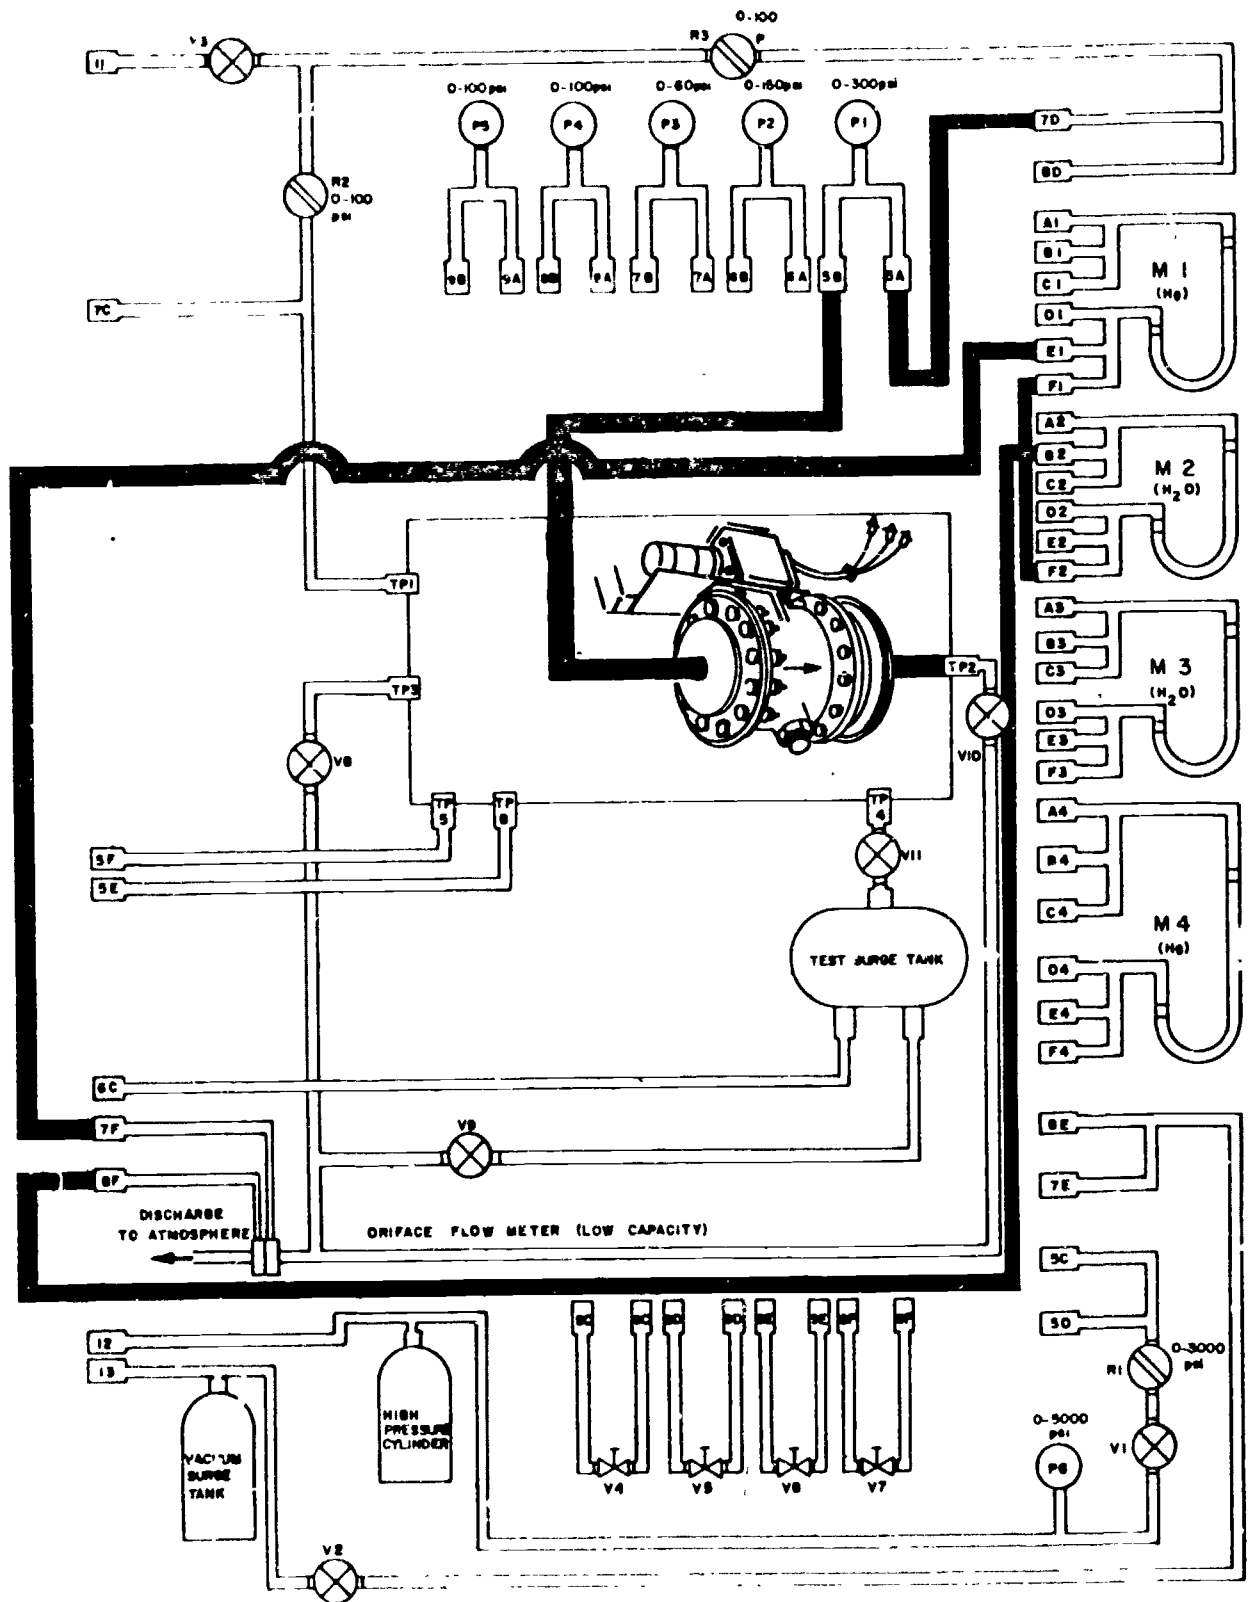
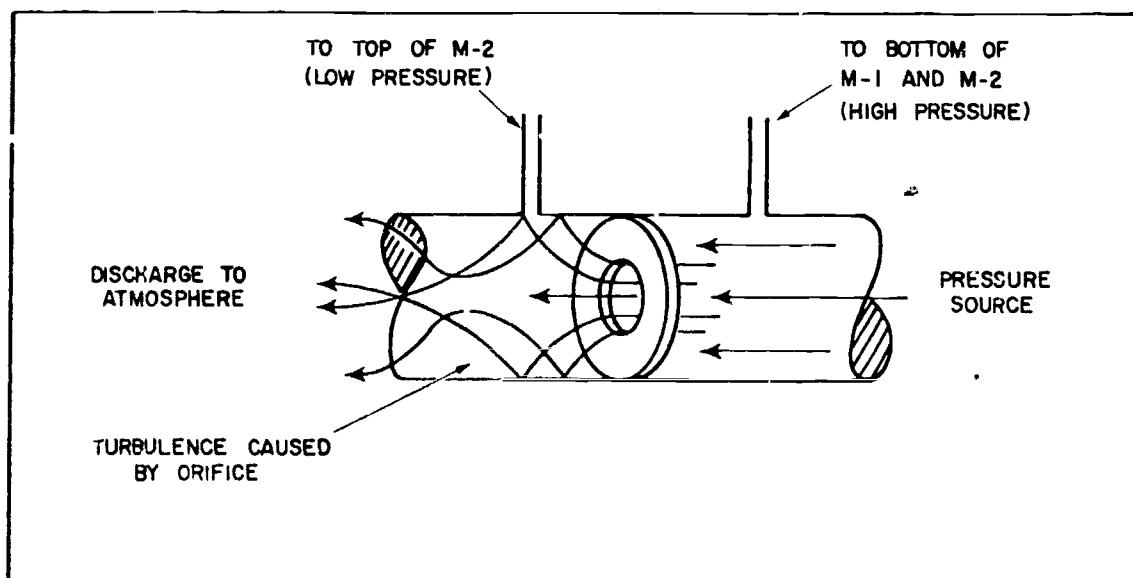

Figure 2. Test Facility Pneumatic Schematic.
Figure 3. Typical Orifice in a Duct.
- a. Figure 2 gives the proper way to hook the valve to the trainer. The heavy, black lines show how to hook each hose in order to make this check.
e. Trace the air flow through the trainer and valve (figure 2). Air in the trainer flows through V-3 and R-3 to connection 7D from 7D through pressure gage P1 and then to the valve. Even though the valve is closed, some air leaks through and goes through V-10 and on to the orifice. Air flow from the upstream side of the orifice goes through connection 7F to E1. From E1 air flows to the bottom of M-1 and at the same time air flows through fitting F1 to F2 and to the bottom of M-2. The mercury manometer (M-1) now reads the absolute pressure that goes through the valve and to the orifice. This high pressure will push the water up in manometer M-2. After the air goes through the orifice, the pressure will drop due to turbulence caused by the restriction (see figure 3). This low pressure air flows through fitting 6F to B2 and in the top of manometer M-2 and tries to push the water down. The two air flows meet and stabilize in M-2. This is where the differential pressure reading is made. You will use this reading (value) later on to find if the valve is leaking too much.